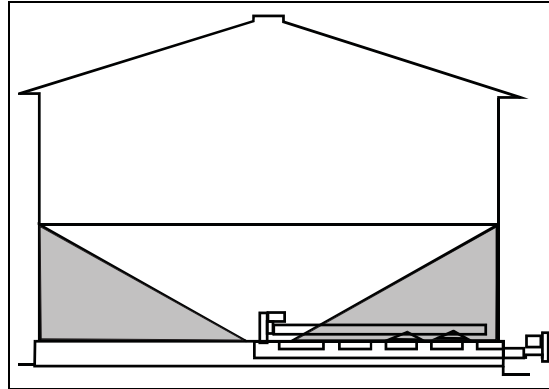
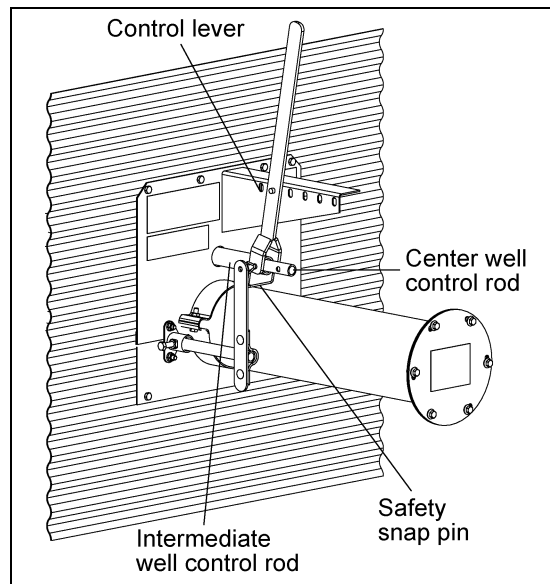

Figure 6B
Figure 6C
- When grain flow stops from the center well, close the center well gate. Insert the safety snap pin through the control lever and both the intermediate and center well control rods as Figure 6C. The remaining grain should look similar to Figure 6B.
5. When grain flow stops from the center well, close the center well gate. Insert the intermediate well bolt through the intermediate well control rod and the center well control rod. Remaining grain should look like Figure 6B on Page 44.